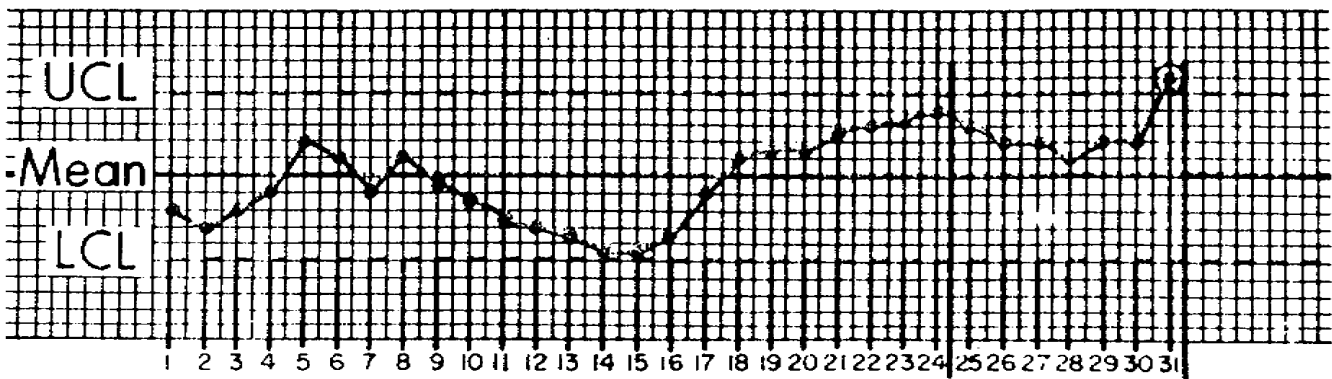
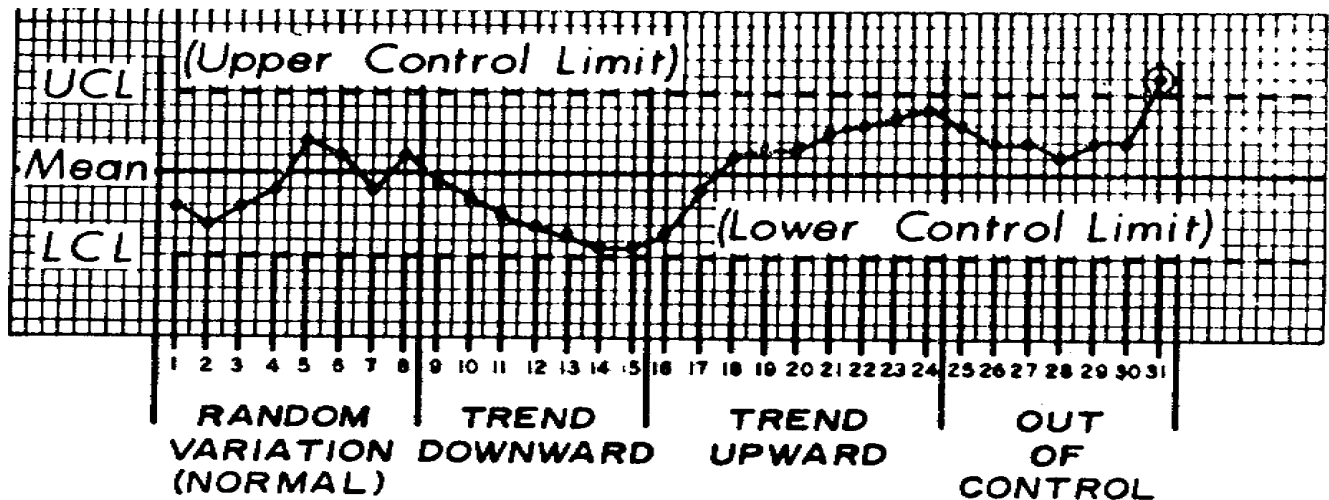

Figure 31
Figure 32
h. Figure 32 is the same basic chart as figure 31. The process control chart has been labeled to indicate the various process performances in an overall view.